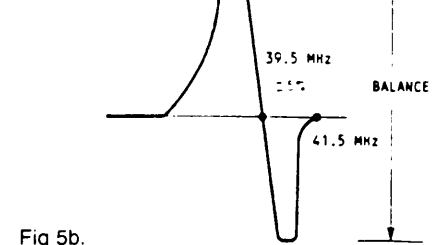

Fig 5b.
- 3: Adjust VR102 obtain the waveform is balance a in Fig 5b.